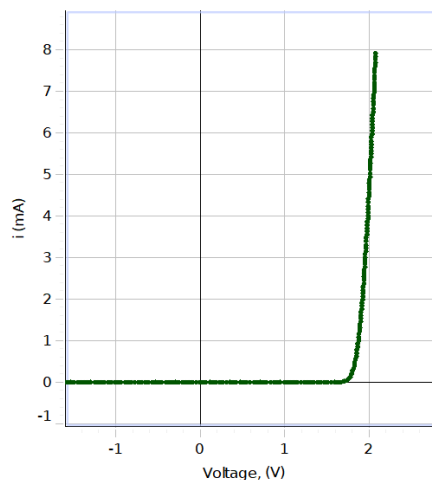
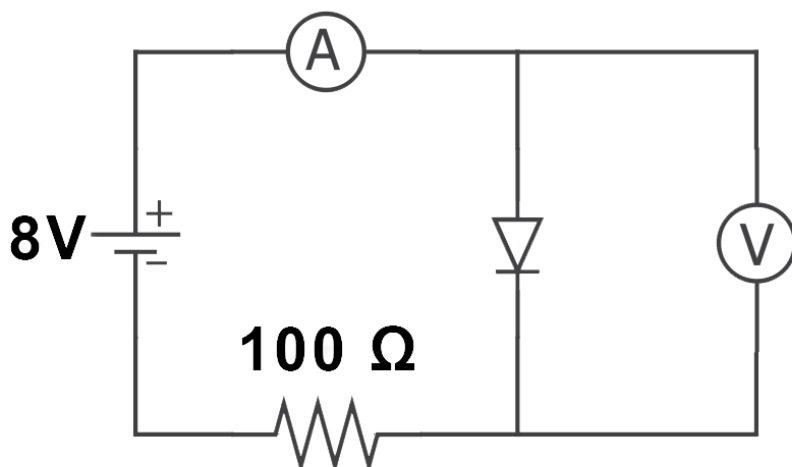

Figure 1: Characteristic Curve
Figure 2: Diode Circuit
A diode (or p-n junction rectifier) is an electronic device which allows current to flow in only one direction. As can be seen in the characteristic curve of the diode in Figure 1, when the voltage drop across the diode is negative (called reverse bias), no current flows (except for a very small reverse current). When the voltage becomes positive, no current flows until a “turn on” voltage is exceeded (for the case shown at about 0.5 V). From then on, a very small increase in voltage results in a very large increase in current. Note that here we have defined positive voltage to be that which causes current flow. In terms of a circuit diagram an arrow is used to indicate a diode as in Figure 2, and current flows only in the direction of the arrow. So current would flow if the red side of V_A was positive with respect to the black side by more than about 0.5 V. From Figure 1 it is clear that the “turn on” voltage is somewhat arbitrary and we take it to be the voltage where the current exceeds 2.0 mA.
1. Setup the circuit shown in Figures 2, 3 & 4 using the $100\ \Omega$ resistor.